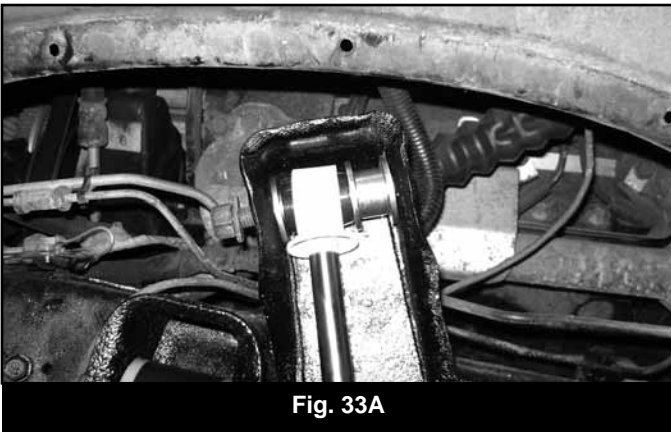

Fig. 33A
64. Lightly grease and install bushings into both ends of shocks. Long sleeve goes into the top of shock, with spacers. Large spacer goes to rear of truck. (Fig 33A,B) Install the new BDS shocks with OE mounting hardware. Torque bolts to 35 ft-lbs